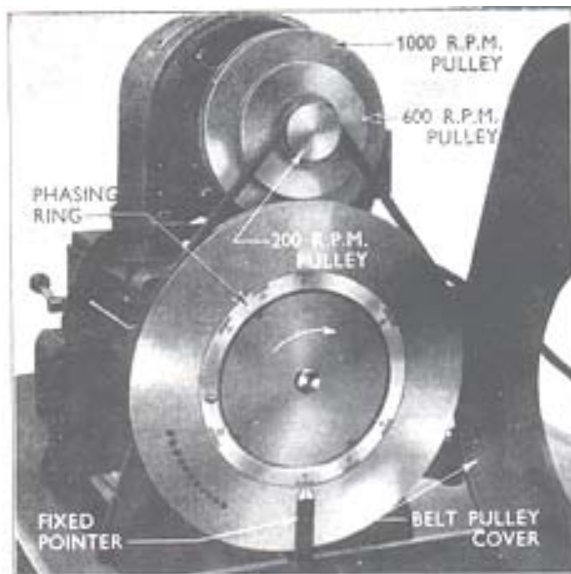

Fig. 20
1. Commence phasing the injection pump at No. 1 element (nearest to the drive end). Open the belt pulley cover of the calibrating machine at right-angles so that the brake mounted behind the lower pulleys is operated against them. Then ensure that the driving belt is fitted to the 200 r.p.m. pulley (see Fig. 20).
5. As the plunger in No. 1 element begins to rise, fuel will flow freely from the spill pipe until such time as the plunger covers the ports. Stop rotating the camshaft as soon as the fuel flow from the spill pipe ceases, (spill cut-off point) and set the phasing ring on the end of the lower pulleys so that one of the graduation lines marked 6C is in line with the fixed pointer (see Fig. 20).